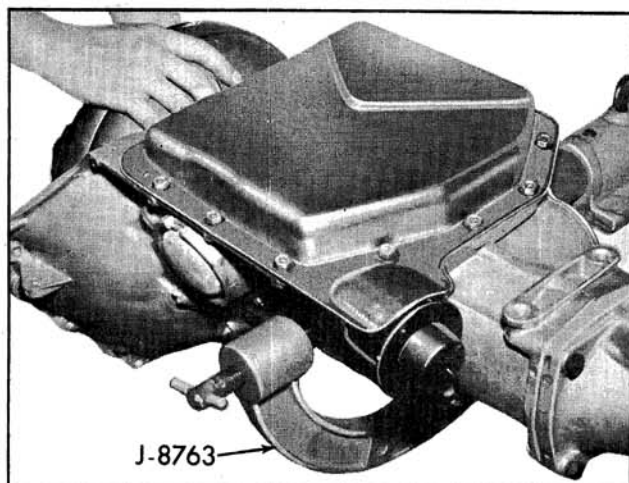

Fig. 6-346 Transmission Holding Tool J-8763
Place transmission on a CLEAN work bench and use CLEAN tools during disassembly. Provide CLEAN storage space for parts and units removed from transmission. An excellent working arrangement is provided by assembling the transmission to Holding Fixture J-8763. (Fig. 6-346)
2. Place transmission in Fixture J-8763. (Fig. 6-346)